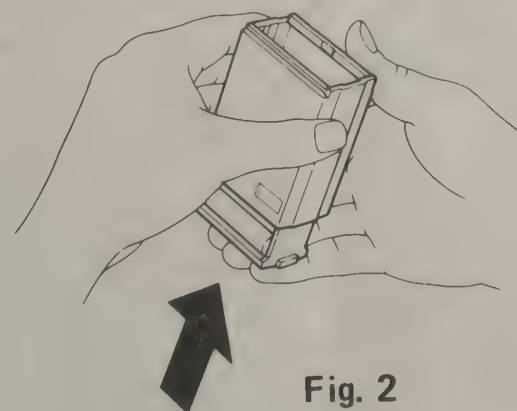

Fig. 2
2. Load the batteries and slide the battery holder into the battery case. (Fig. 2)